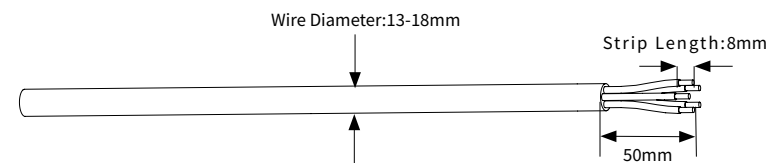

Figure 4-16
- ② According to the table above, select an appropriate cable, peel the insulation sleeve of AC cable off for 50mm, and peel off the end of 3L / PE / N wires for 8mm, as shown in Figure 4-16: